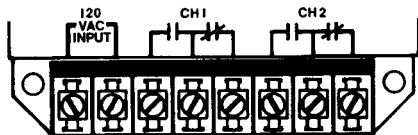

Figure 4. EC72 Terminals
2. Wire 12 Vdc, 24, 120, 240 or 277 Vac to terminals 1 and 2. See Figure 4 below. Determine voltage according to the model selected.